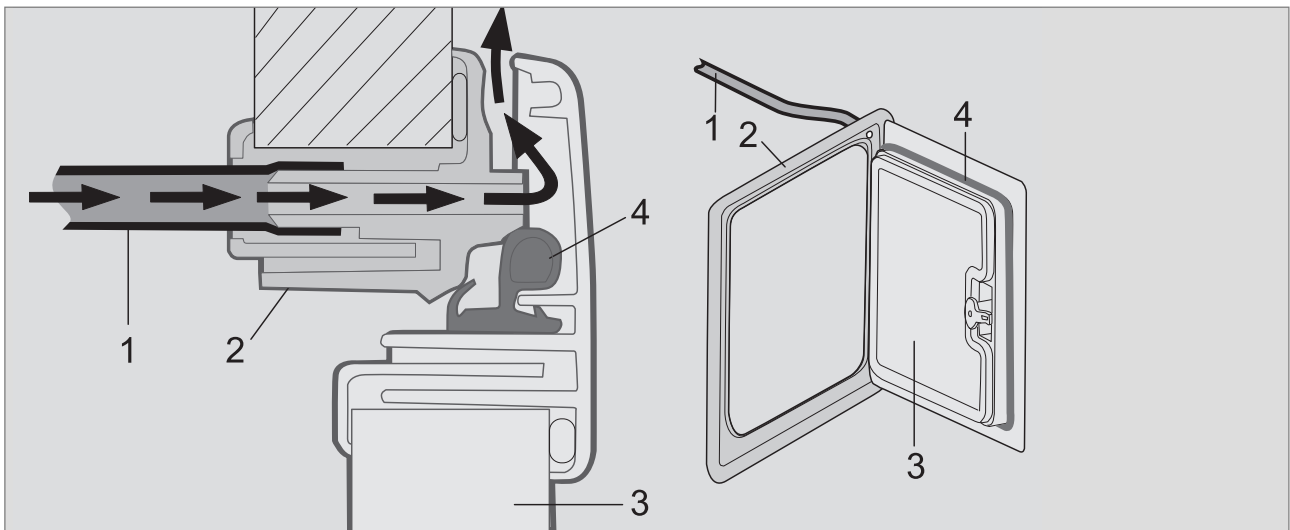

Fig. 2.26
As long as the cassette tank is inserted, it is de-aired via the adapter (2) and hose (1). The ventilation hose is fitted on the inside of the SK service door (3). Ventilation outwards is ensured via a special exit opening in the door (Fig. 2.26).